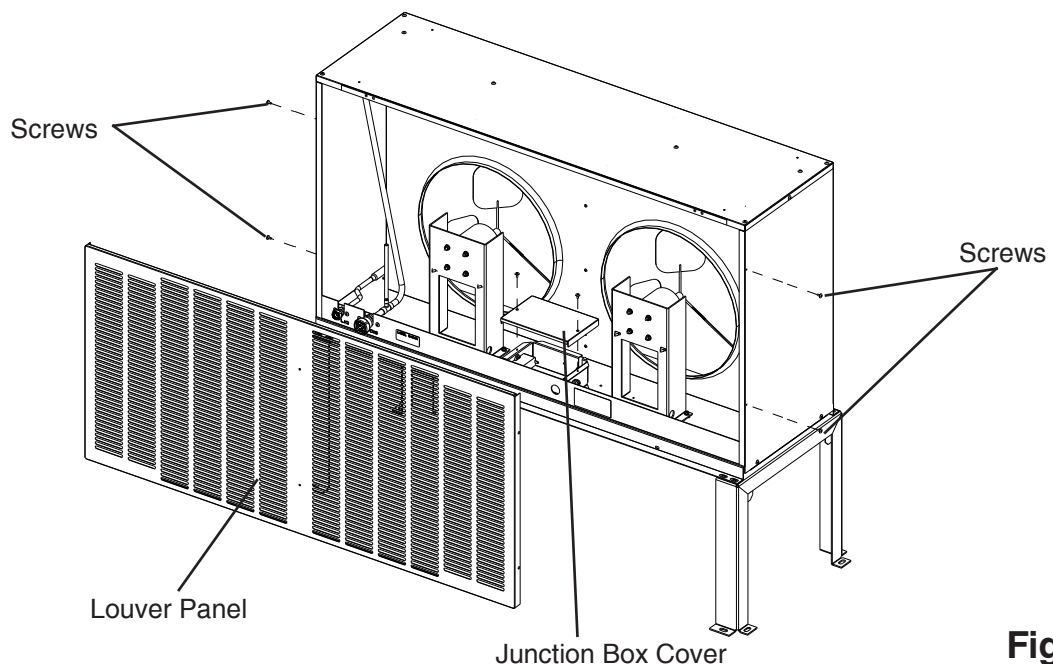

Fig. 12
- 1) Remove the louver panel. See Fig. 12.